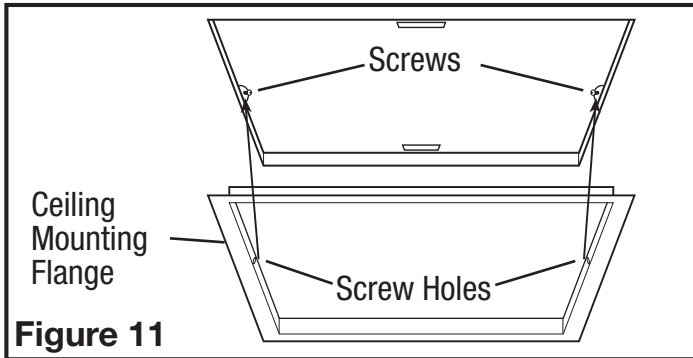

Figure 11
NOTE: If the mounting flange is installed on the fan housing, remove the two screws that connect the ceiling mounting flange to the housing and set aside (Figure 11).
4. Install the ceiling mounting flange to cover any gaps which exist between the housing and the finished ceiling. Remove the two screws that connect the ceiling mounting flange to the housing. Put sealant (not provided) on inside edge of the ceiling mounting flange to ensure that the flange is sealed to the ceiling. Line up the screw holes in the ceiling mounting flange with the screw holes on the inside of the housing and press flange in place so it is tight against the ceiling. Reinstall ceiling flange mounting screws inside the housing (Figure 11).